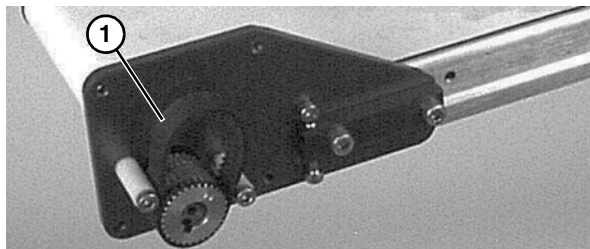

Figure 52
4. Remove timing belt (**Figure 52, item 1**).